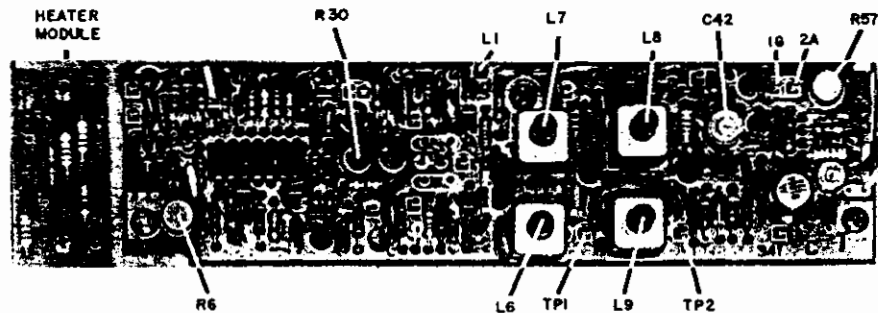

Fig. 6-1a
3. Rotate the power level control, R57, to the full counter clockwise position, and run a jumper between pins 1G and 2A. R57 and pins 1G and 2A are on the exciter (Fig. 6-1a).